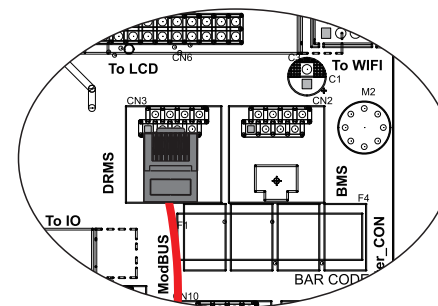

Figure 4.8-4 RJ45 interface
**Step 4.** Connect RJ45 terminal to the right position onto the inverter. See Figure 4.8-4